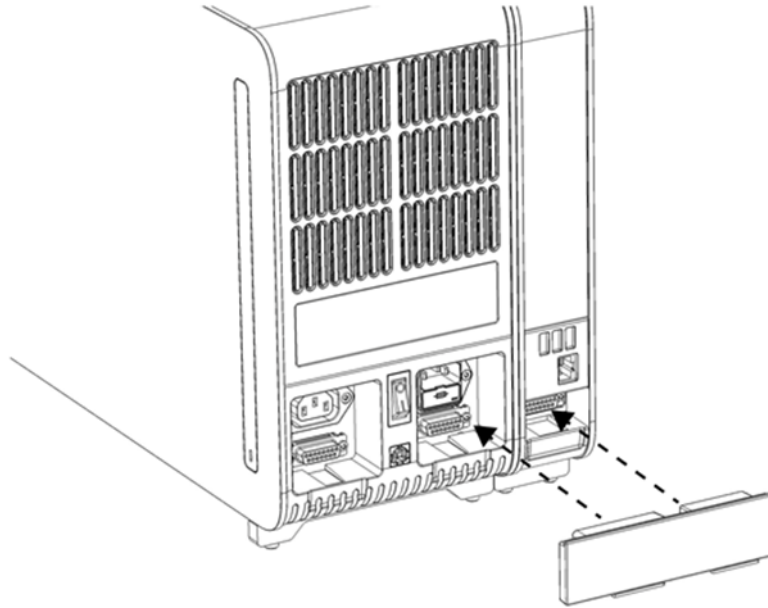

Figure 8. Connecting the Analytical/Operational Module Bridge.
5. Connect the Analytical/Operational Module Bridge at the back of QIAstat-Dx Analyzer 2.0 to link the Operational and Analytical Modules together (Figure 8).